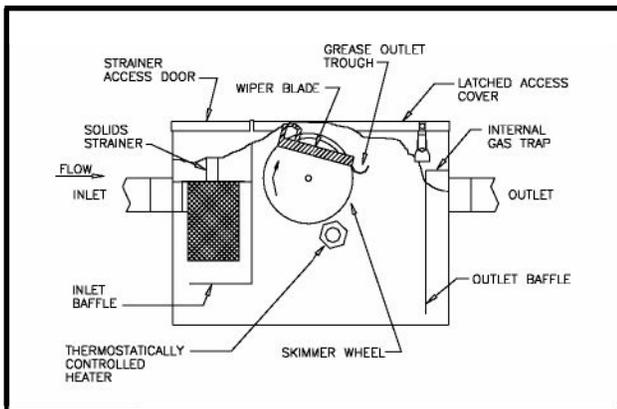

Figure 11: A timer controlled Grease Recovery Device (GRD)
1. Timer controlled - See Figure 11.